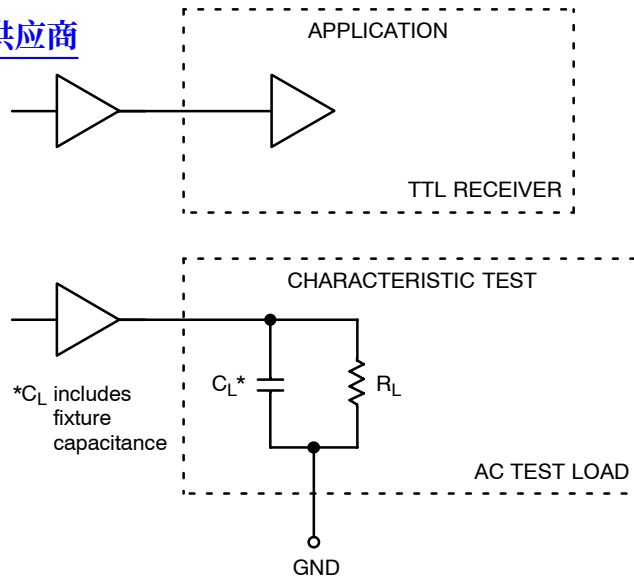

Figure 3. TTL Output Loading Used for Device Evaluation
4. Measured with a 750 mV 50% duty-cycle clock source. $R_L = 500 \Omega$ to GND and $C_L = 20 \text{ pF}$ to GND. Refer to Figure 3.